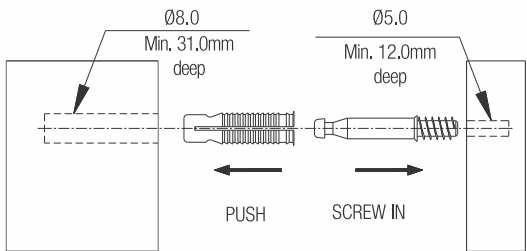

Fig. 1
1. Drill the boards as shown in diagram. Screw the push fix screw into one and insert the sleeve into other board as shown (Refer Fig. 1).